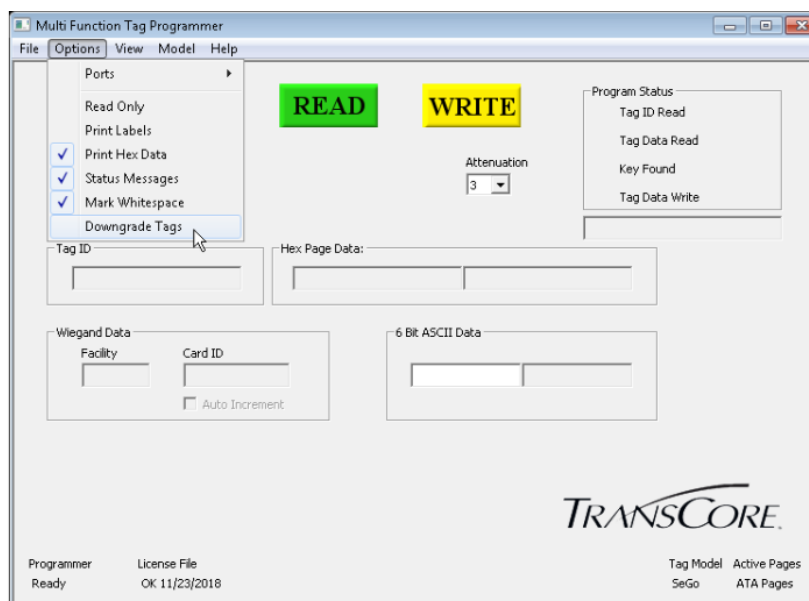

Figure 20 Selecting Downgrade Tags menu option
1. Select Downgrade Tags from the **Options** menu as shown in Figure 20.